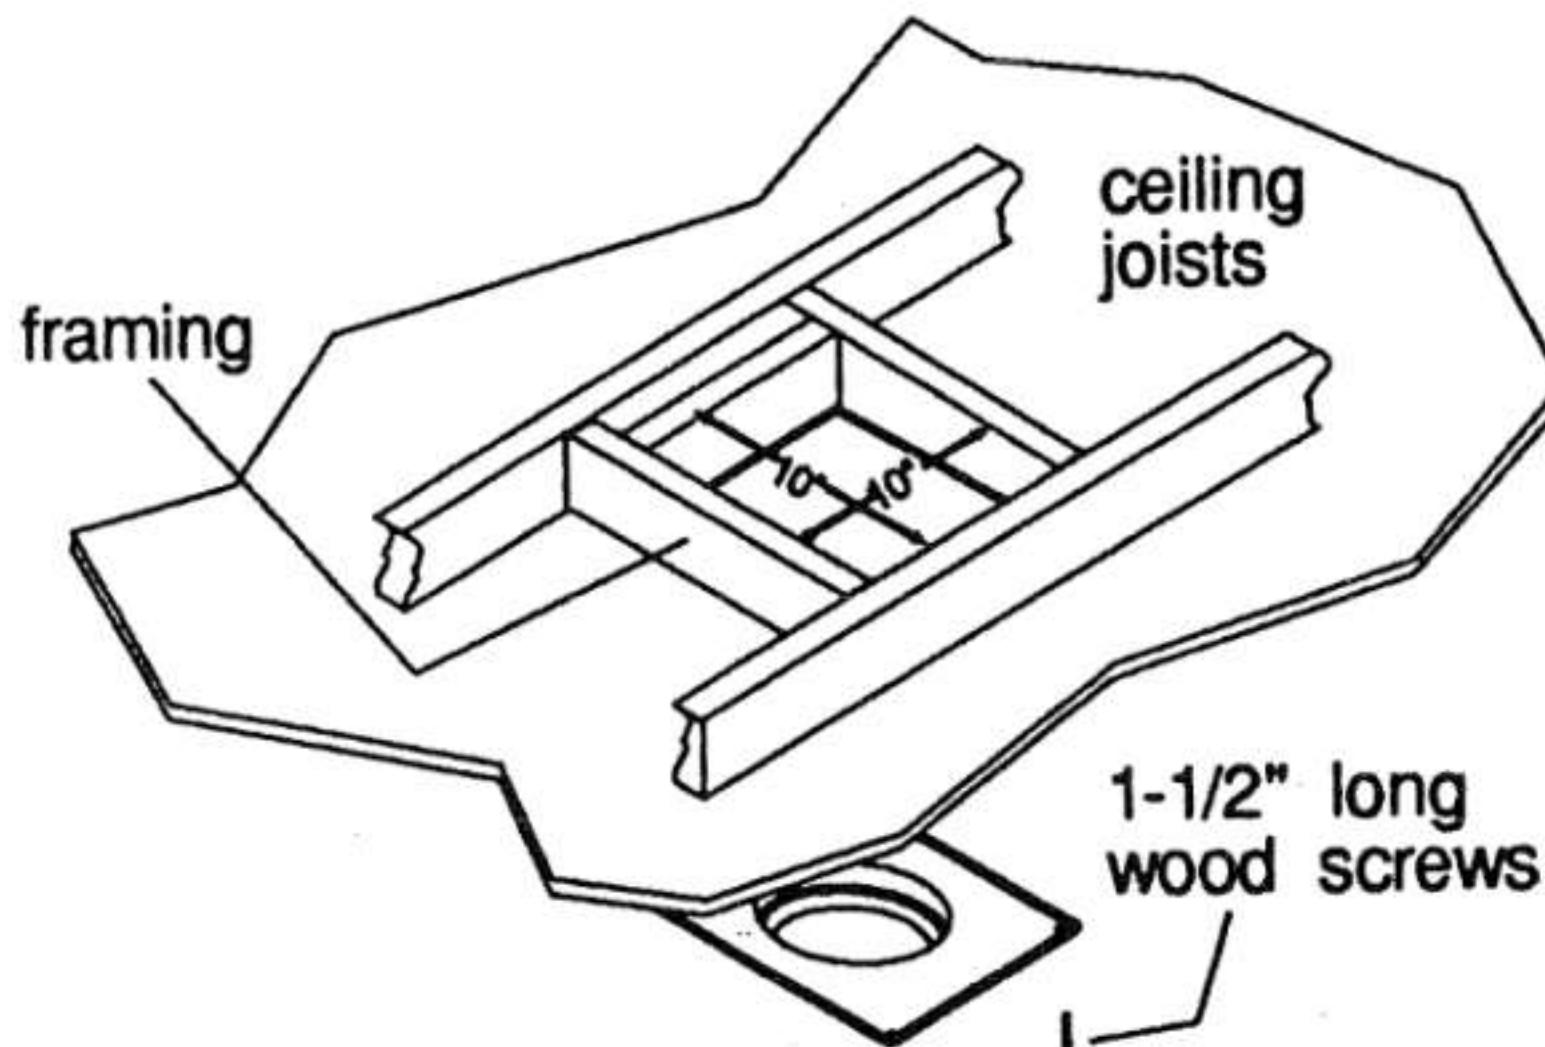
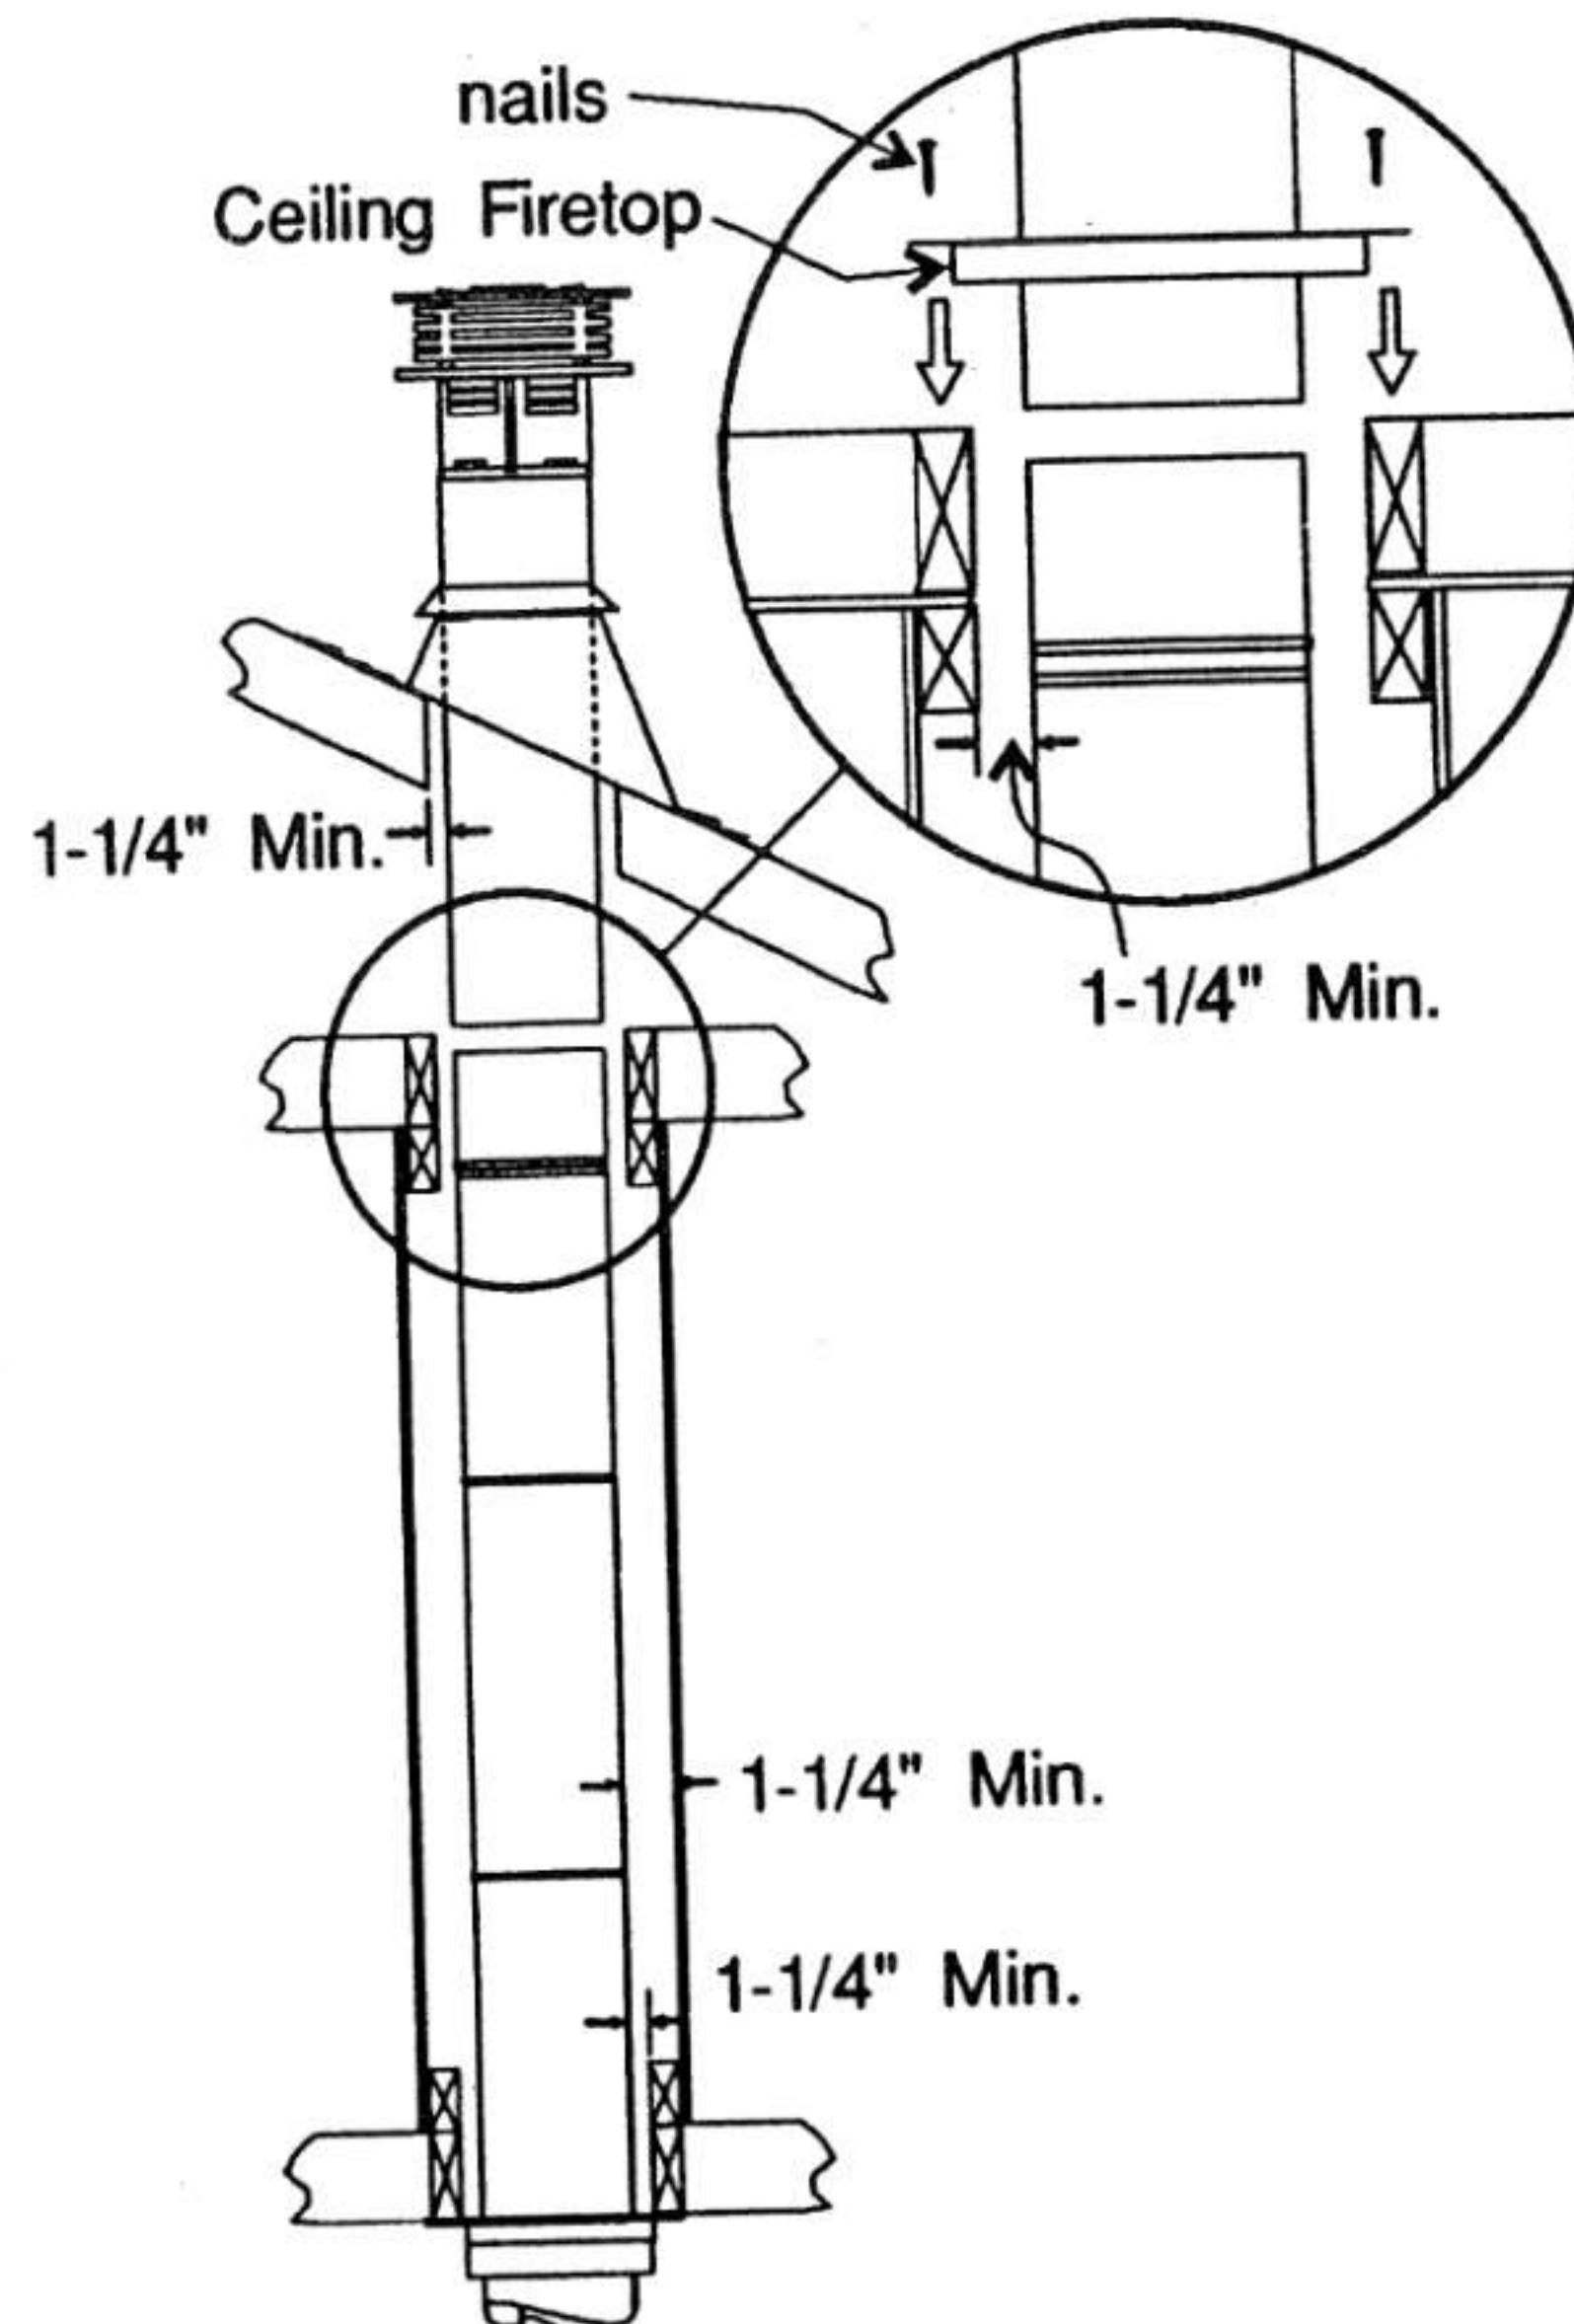

Fig. 8
Fig. 11
3) To install the Round Support Box/Wall Thimble in a flat ceiling, cut a 10 inch square hole in the ceiling centered on the hole drilled in Step 2). Frame the hole as shown in Fig. 8.
- a) For multi-storey vertical installations, a Ceiling Firestop (Part# 946-552, Dura-Vent #963) is required at the second floor, and any subsequent floor. Fig. 11. The opening should be framed to 10 inch x 10 inch inside dimensions, in the same manner as shown in Fig. 8.